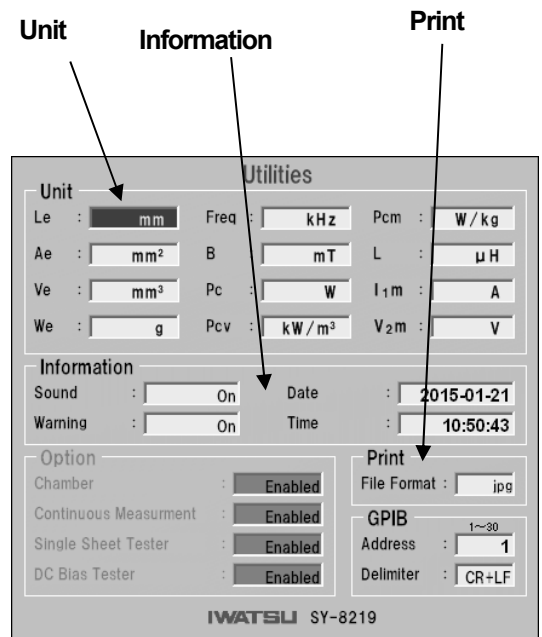

Fig.5-1 Utilities screen
- Press  to display Utilities screen (see Fig.5-1).
① Press  to display Utilities screen (see Fig.5-1).
② Move the edition cursor to List Box of the output information whose **Information** is to be changed and press .
③ If Popup List opens, move the edition cursor to the item to be set and press  to determine the setting.
④ If Popup Edit Box opens, use ten keys to enter a number and press . Or, move the edition cursor to the a number to be changed
- ① Press  to display Utilities screen (see Fig.5-1).
- ② Move the edition cursor to List Box of **Print** item to be changed and press .
- ③ When Popup List opens, move the edition cursor to item to be set and press  to determine the setting.